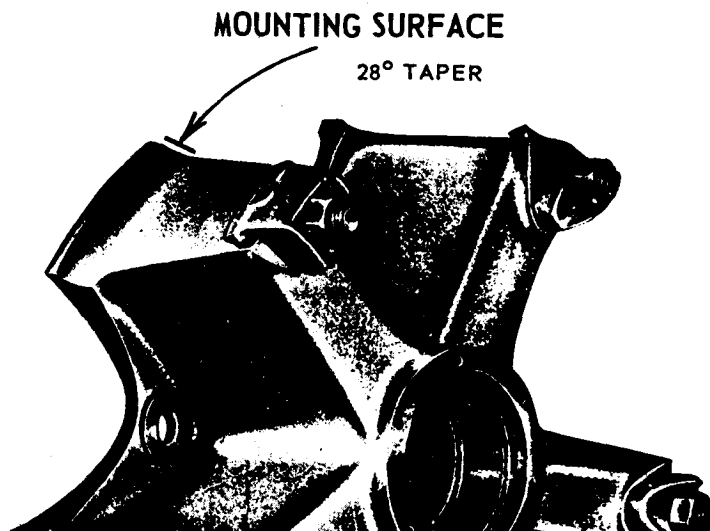

FIG. 2: Showing 28° Mounting Surface.
1. Using a wire brush, clean the wheel and rim mounting surfaces making sure they are free from dirt and paint (Fig. 2).